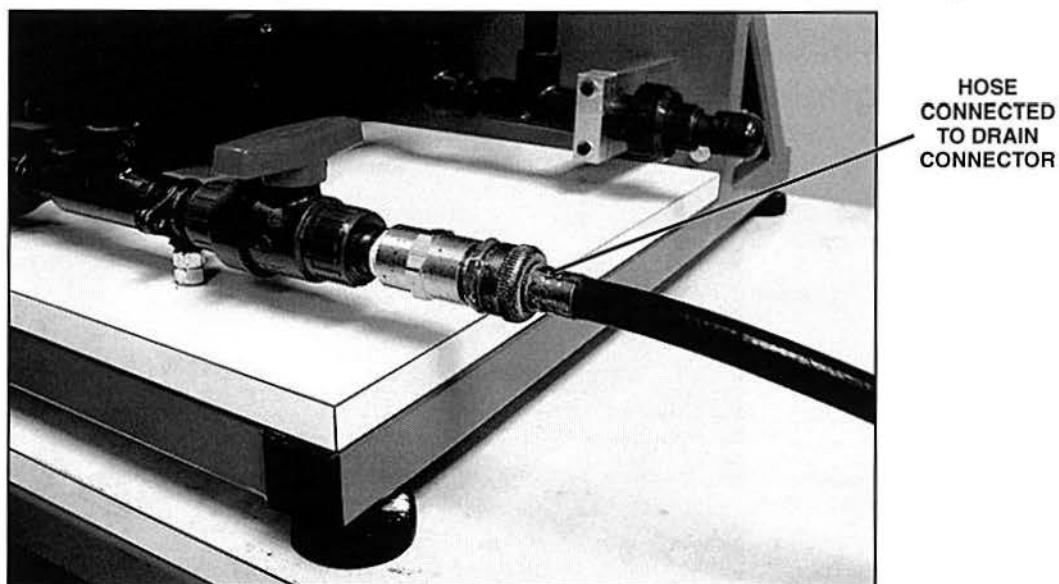

Figure 48. A Hose Connected to the Drain Connector
- C. To use a hose, connect one end of the hose to the drain connector, as shown in figure 48, and place the other end of the hose in a sink or near a drain in the floor.